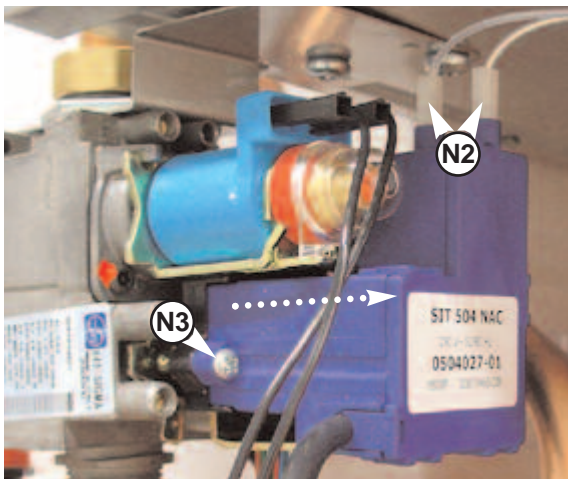

Fig. 18.43
4. Disconnect the electrodes wires "N2" and remove the screw "N3" (see Fig. 18.43);
5. Remove the spark generator by pulling it toward the right (see Fig.18.43);
2. Remove the spark generator by only removing the screw "N3" and pull it toward the right as in Fig.18.43;